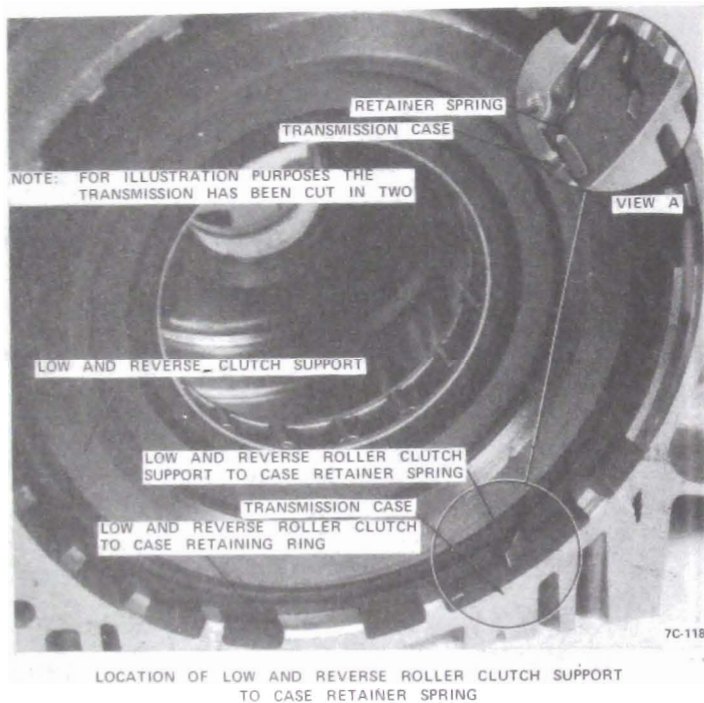

Figure 7C-220
4. Install low and reverse clutch support to case retaining ring. See Figure 7C-118.